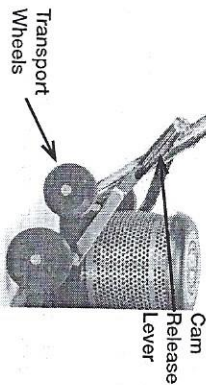

Fig 3
- Note: the hardened steel cam release lever does not require extreme tightening to effectively hold the handle in position. Over-tightening will shorten the functional life of the lever. (Fig3).*
Use the rear wheels for transporting the C1600-3. This will ensure that the operating wheels remain clean and smooth for use on clean floor surfaces. (Fig 3).